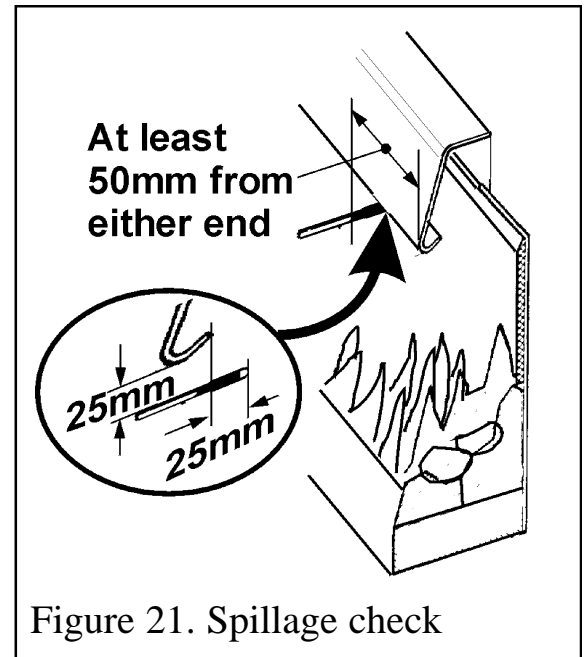

Figure 21. Spillage check
4. Place the smoke match into the appliance canopy (See figure 21).